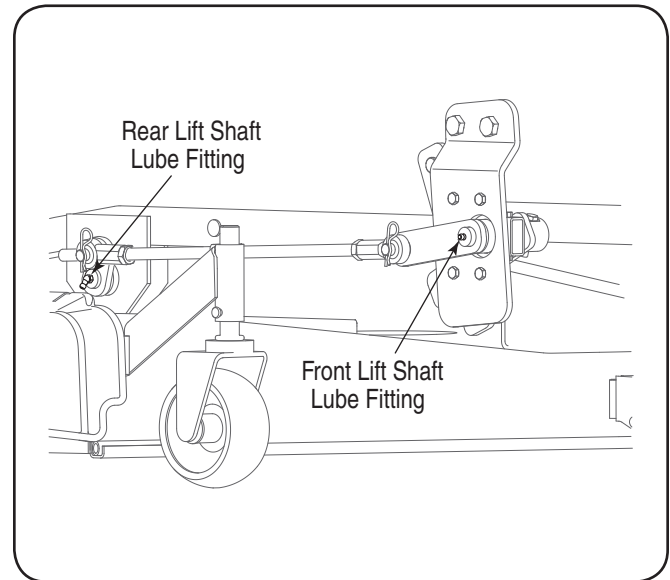

Figure 26
- After every 10 hours of operation, lubricate the two lift shafts on both the RH and LH sub-frame assemblies with 251H EP grease or an equivalent No. 2 multipurpose lithium grease. See Figure 26.